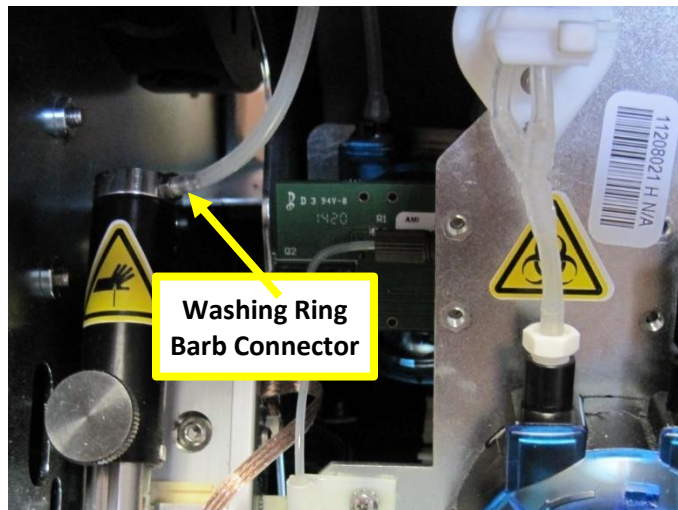

Figure 26
28. Remove the tube from the Washing Ring Barb connector. Figure 26